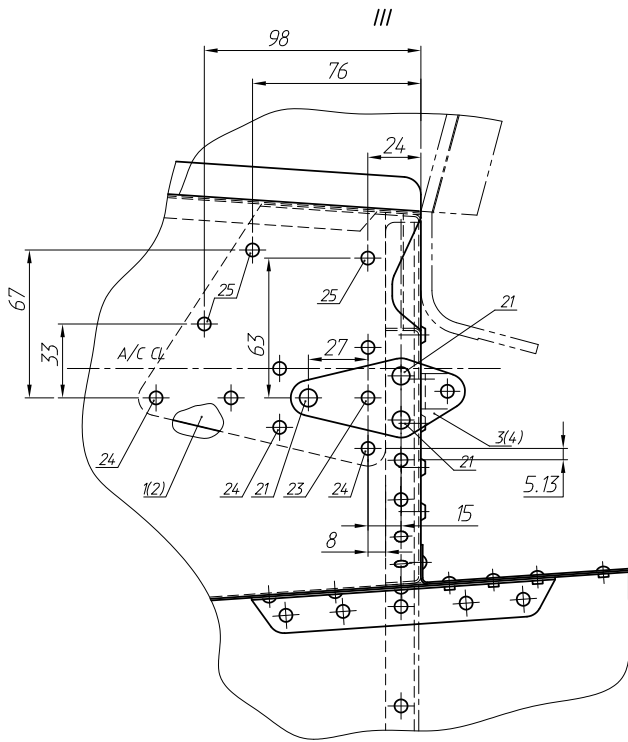

Fig. 11.
1.1. Mark and drill Ø3mm hole for the rivet No. 23 in the stabilizer attachment plate No.3(4) (see fig. 11).
2.2. Remove the stabilizer attachment plate (see fig. 11 No.3(4)) by drilling out the rivets No.21 – 6 pcs. with Ø4mm drill.
- 3.7. Mark and drill the  $\varnothing 3.1$ mm holes for the rivets No.25 (see fig. 11). Insert Clico fasteners.
- 3.11. Fix with Clico fasteners the doubler No.1(2) inside the tail boom and stabilizer attachment plate No.3(4) (see fig. 11), set percussion rivets No.21 – 6 pcs., No.23 – 2 pcs., No.24 – 12 pcs., No.25 – 6 pcs.